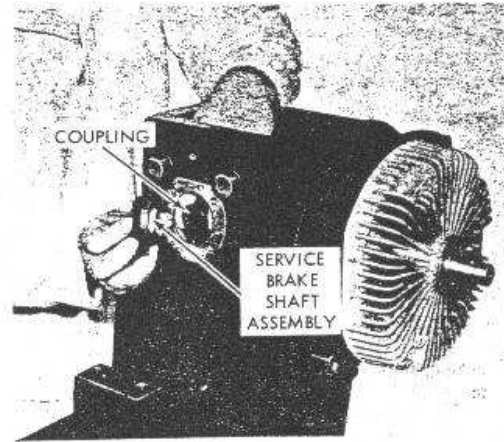

Figure 9
5. Remove brake flange, four bolts and gasket (59 and 61), tap lightly and pull out brake flange assembly (55). Observe to see that brake coupling (52) is also removed (Fig. 9 and 17).